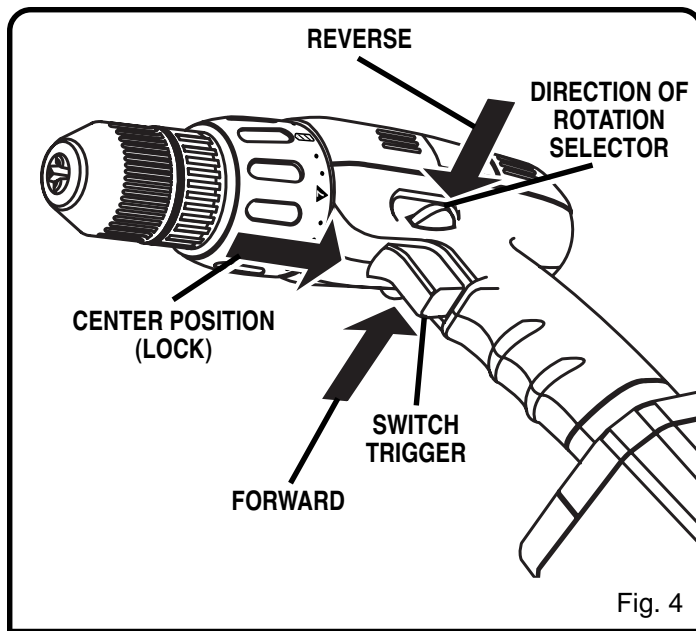

Fig. 4
See Figure 4.
- Place the direction of rotation selector in center position. See Figure 4.